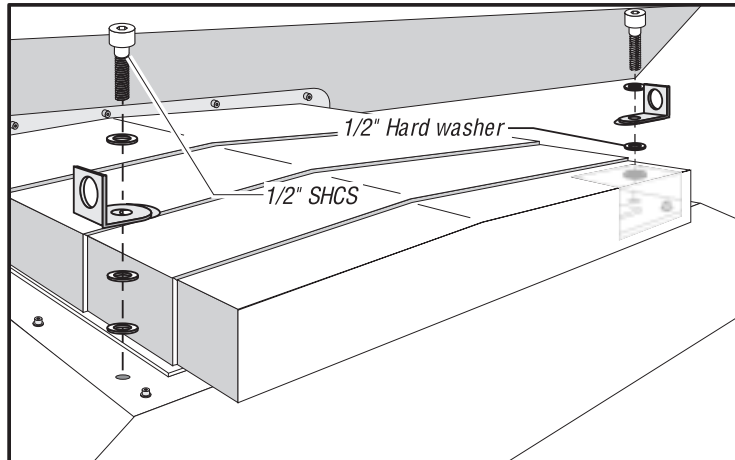

Fig. 2-1 Lifting bracket mounting location for VF-5.
1. Install the lifting brackets with (2) 1/2" -13 SHCS and (2) 1/2" hard washers, [(2) washers under bracket and (1) above bracket], to the base as shown in Figure 2-1. Tighten Securely.